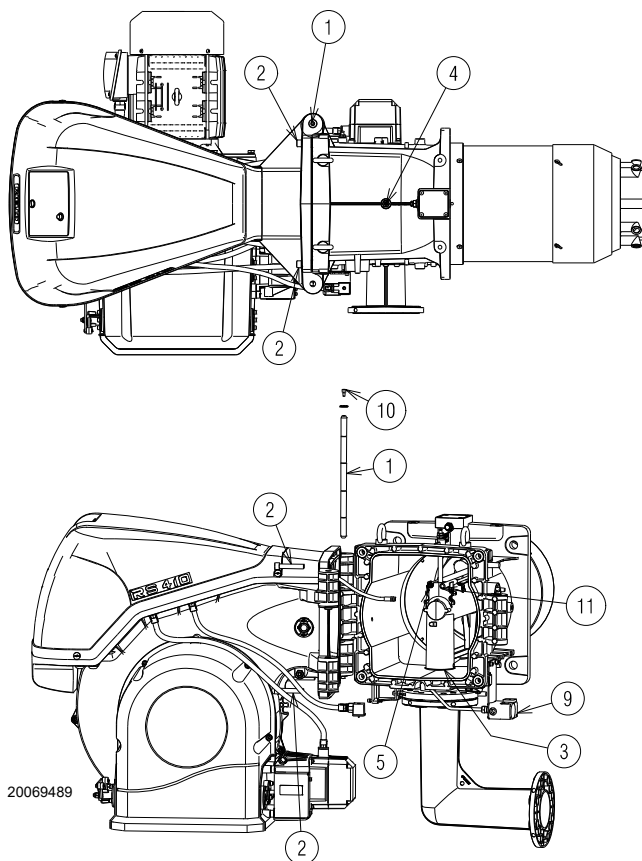

Fig. 12
The burner leaves the factory set for opening to the left, therefore maintaining the pin 1)(Fig. 12) in the housing.
- A** disconnect the plug/socket 9)(Fig. 12) of the maximum gas pressure switch;
- D** fully open the burner as in Fig. 12;
To open the burner from the opposite side, before removing the pin 1)(Fig. 12), make sure that the 4 screws 2) are tight. Then shift the pin 1) to the opposite side, only then is it possible to remove the screws 2). Disconnect the socket 9 (Fig. 12) of the maximum gas pressure switch, then proceed as described above at point (C).